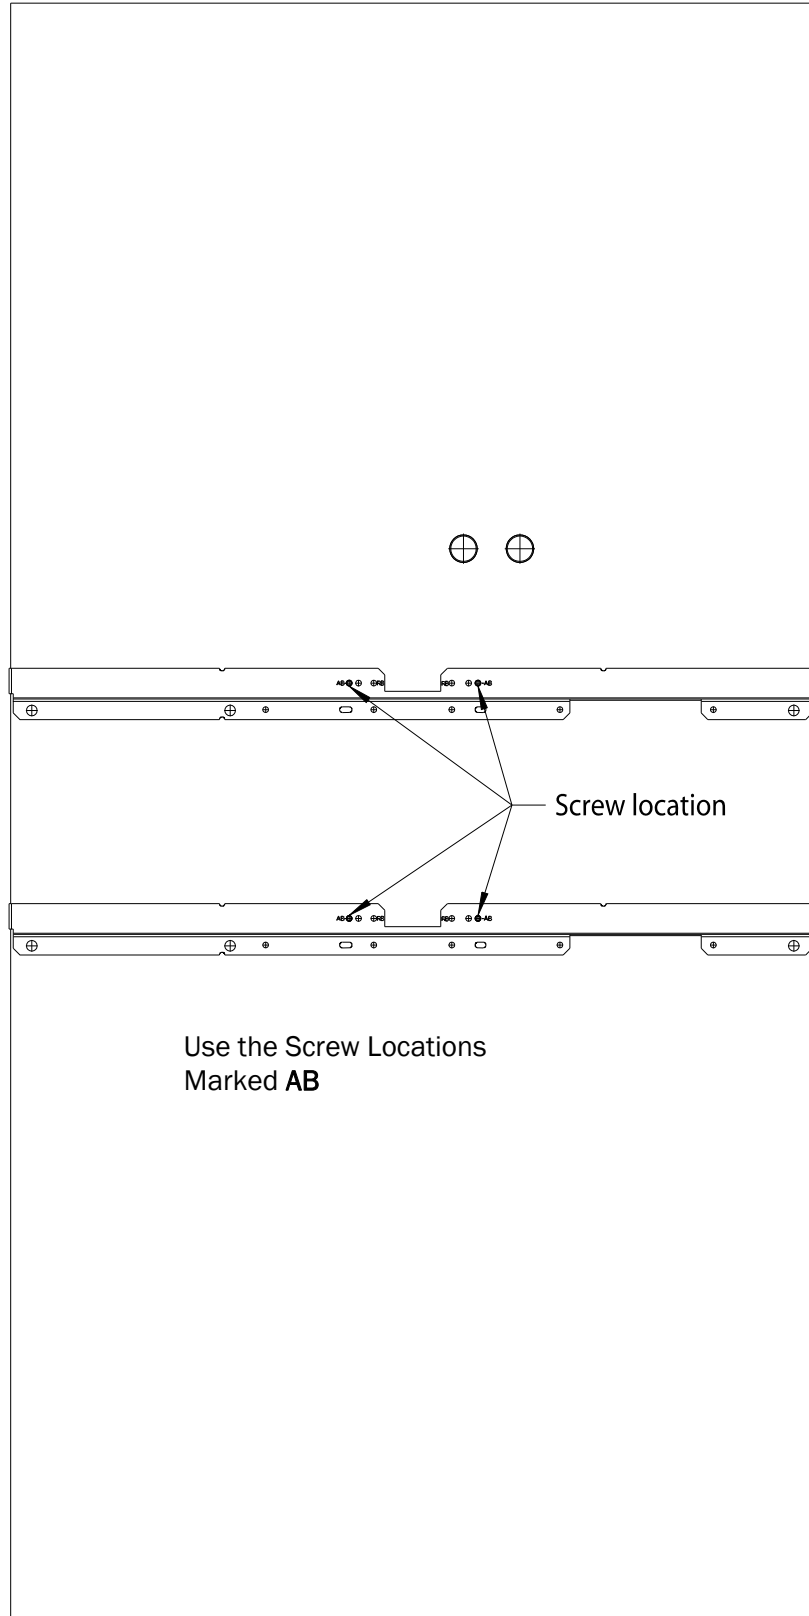

Figure 2-11: Core AP Below Ceiling Tile Mounting Rail Screw Locations
4. Mark the location of the **AB** screw holes in the mounting rails on the ceiling tile where the holes will be drilled through the tile as shown in Figure 2-11. Drill four .375-inch (10 mm) diameter holes in the ceiling tile.